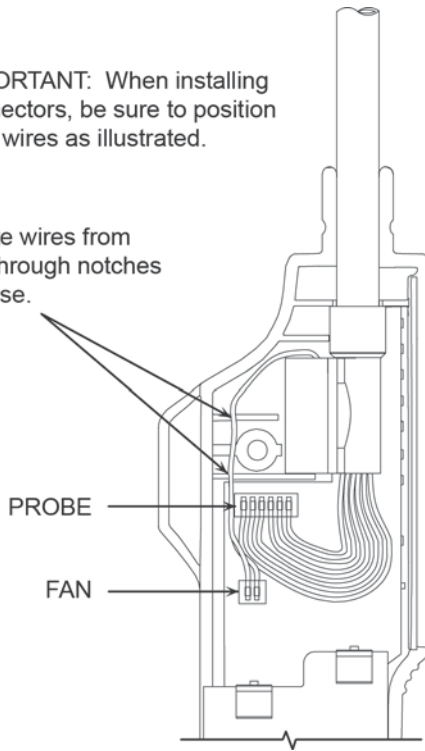

Figure 8. Connector Locations on Printed Circuit Board
7. Plug both the probe and fan connectors onto their respective header holes on the printed circuit board as shown in Figure 8.
8. Position the probe assembly between the two case halves, routing the fan wires through the notches in the case as shown in Figure 8. Then reassemble the case; push on the front retaining collar; screw on the probe tip; and reinstall the batteries.
Instrument does not turn on.	a. Batteries are dead or installed backward. Install four fresh 'AA' alkaline batteries per Section Battery Installation . b. Possible faulty refrigerant sensor. -Remove refrigerant sensor and turn on detector. If detector now turns on, and after warm-up shows a bad sensor (see sensor failure indication below), replace sensor per Section Sensor Replacement . c. Loose printed circuit board connector. Disassemble detector and ensure that all connectors are securely attached to the printed circuit board. See Figure 8.
Erratic gas indication.	<ul style="list-style-type: none"> a. Sensor faulty. Replace sensor per Section Sensor Replacement. b. Loose sensor. Unscrew probe tip and ensure that sensor is being held firmly in socket. c. Loose printed circuit board connector. Disassemble detector and ensure that all connectors are securely attached to the printed circuit board. See Figure 8.